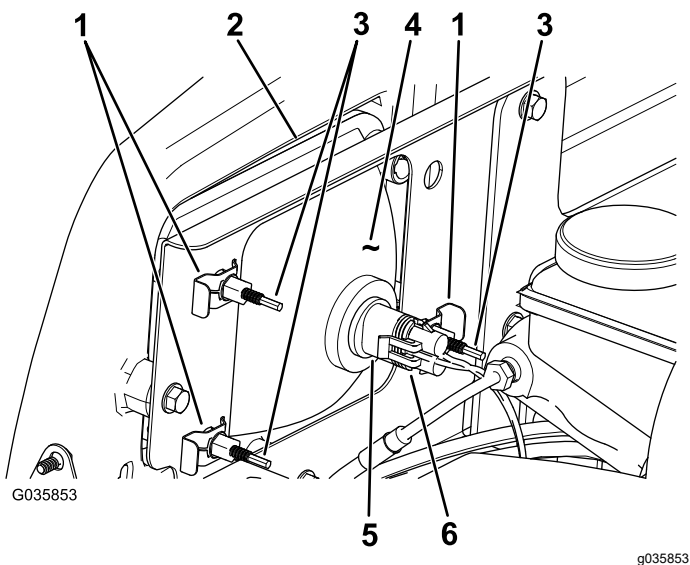

Figure 44
3. Disconnect the electrical connector for the harness from the connector of the lamp assembly (Figure 44).
4. Remove the speed clips that secure the headlight to the headlight bracket (Figure 44).
5. Remove the headlight assembly by moving it forward through the opening in the front bumper (Figure 44).
6. Install the new headlight through the opening in the bumper (Figure 44).
8. Connect the electrical connector for the harness to the connector of the lamp assembly (Figure 44).
2. At the back of the headlight assembly, rotate adjustment screws (Figure 44) to pivot the headlight assembly and align the position of the cast beam.